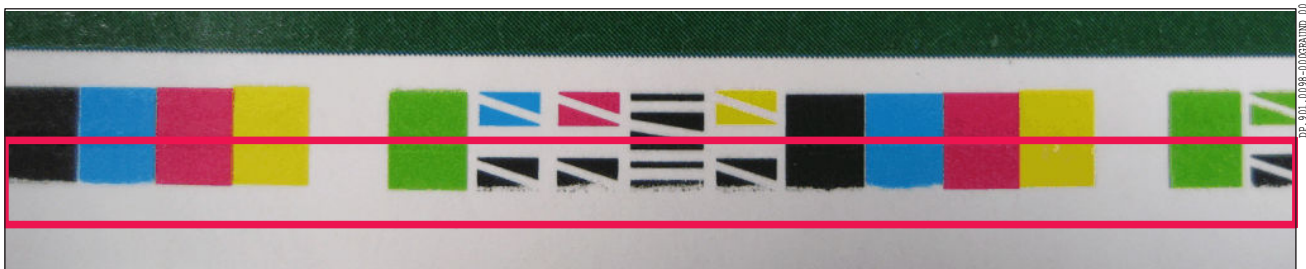

Fig. 5 Incorrectly printed quality control strip
- Ensure that the quality control strips are printed completely and with sharp, clean edges (not as in Fig. 5 in the area in the red box). The quality control strips must never protrude into the gripper margin or over the rear edge of the sheet and must not print at the edge of the blanket.